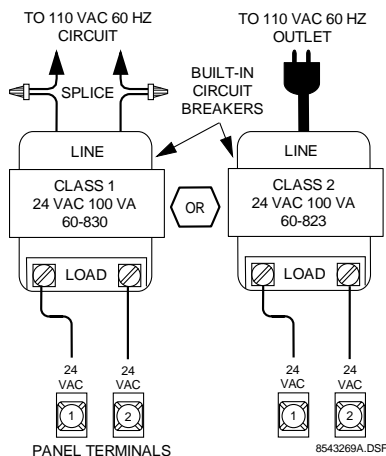

Figure 23. Wiring an AC Power Transformer to the Panel
- Wire the AC power transformer to the panel as shown in Figure 23.